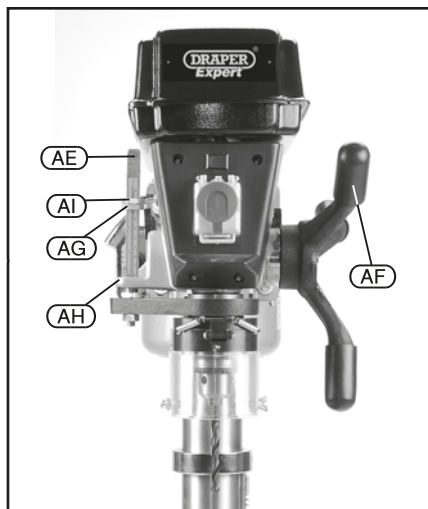

FIG.19
9.5 GENERAL DRILLING - FIG. 19